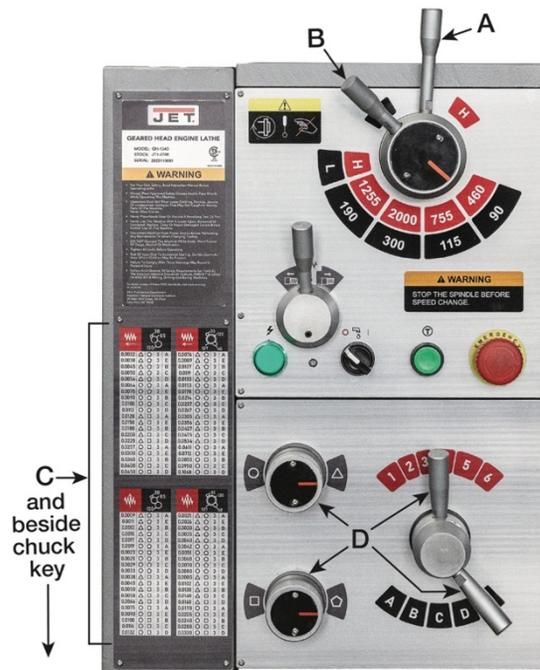

Figure 13-1
1. Move the High/Low Speed Selector Lever (A, Figure 13-1) to either the High or Low setting.
2. Move the RPM Speed Selector Lever (B, Figure 13-1) to the desired RPM.
1. Reference the Feed/Thread Tables (C, Figure 13-1) NOTE: Additional Feed/Thread Tables are located beside the chuck key.
2. Move Feed Rate/Thread Selector dials and handles (D, Figure 13-1) to the appropriate positions, according to the Feed/Thread Tables.